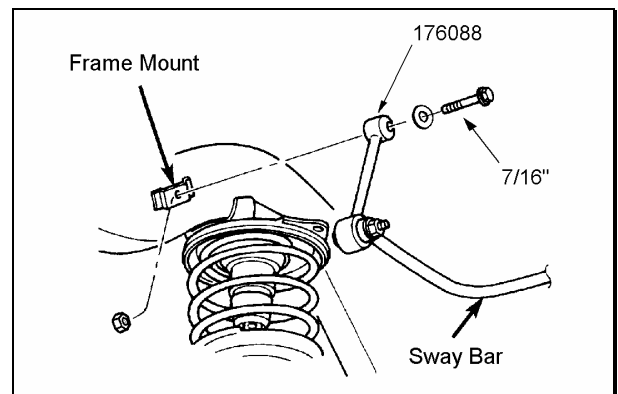

Figure 15
- 4) ☐ Attach the new end link assemblies to the frame brackets and rear sway bar with the hardware from kit 860155. See Figure 15. Tighten the end link mounting bolts to 40 ft. lbs.